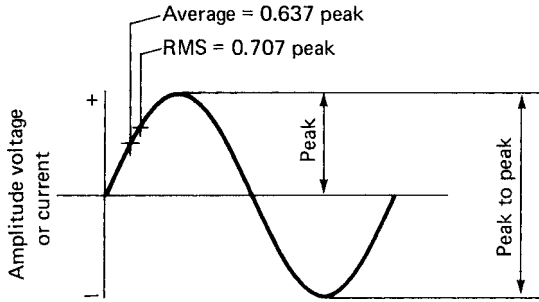

Figure 7-14 Sine-wave values of average, rms, and peak.
**Peak value.** The maximum point on a sine wave is its peak value. Both peaks of a single hertz may be included in a reference. If so, it becomes a peak-to-peak (p-p) value. A peak value of 100 volts means that the peak-to-peak value is 200 volts. This is shown in Fig. 7-14.
To compute the average value, sine-wave values for angles between  $0^\circ$  and  $180^\circ$  are added. The total is then divided by the number of values taken. As seen in Fig. 7-14, the average is equal to 0.637 of the peak. For example, suppose the peak voltage of a sine wave is 100 volts. The average voltage is 63.7 volts ( $100 \times 0.637 = 63.7$ ).